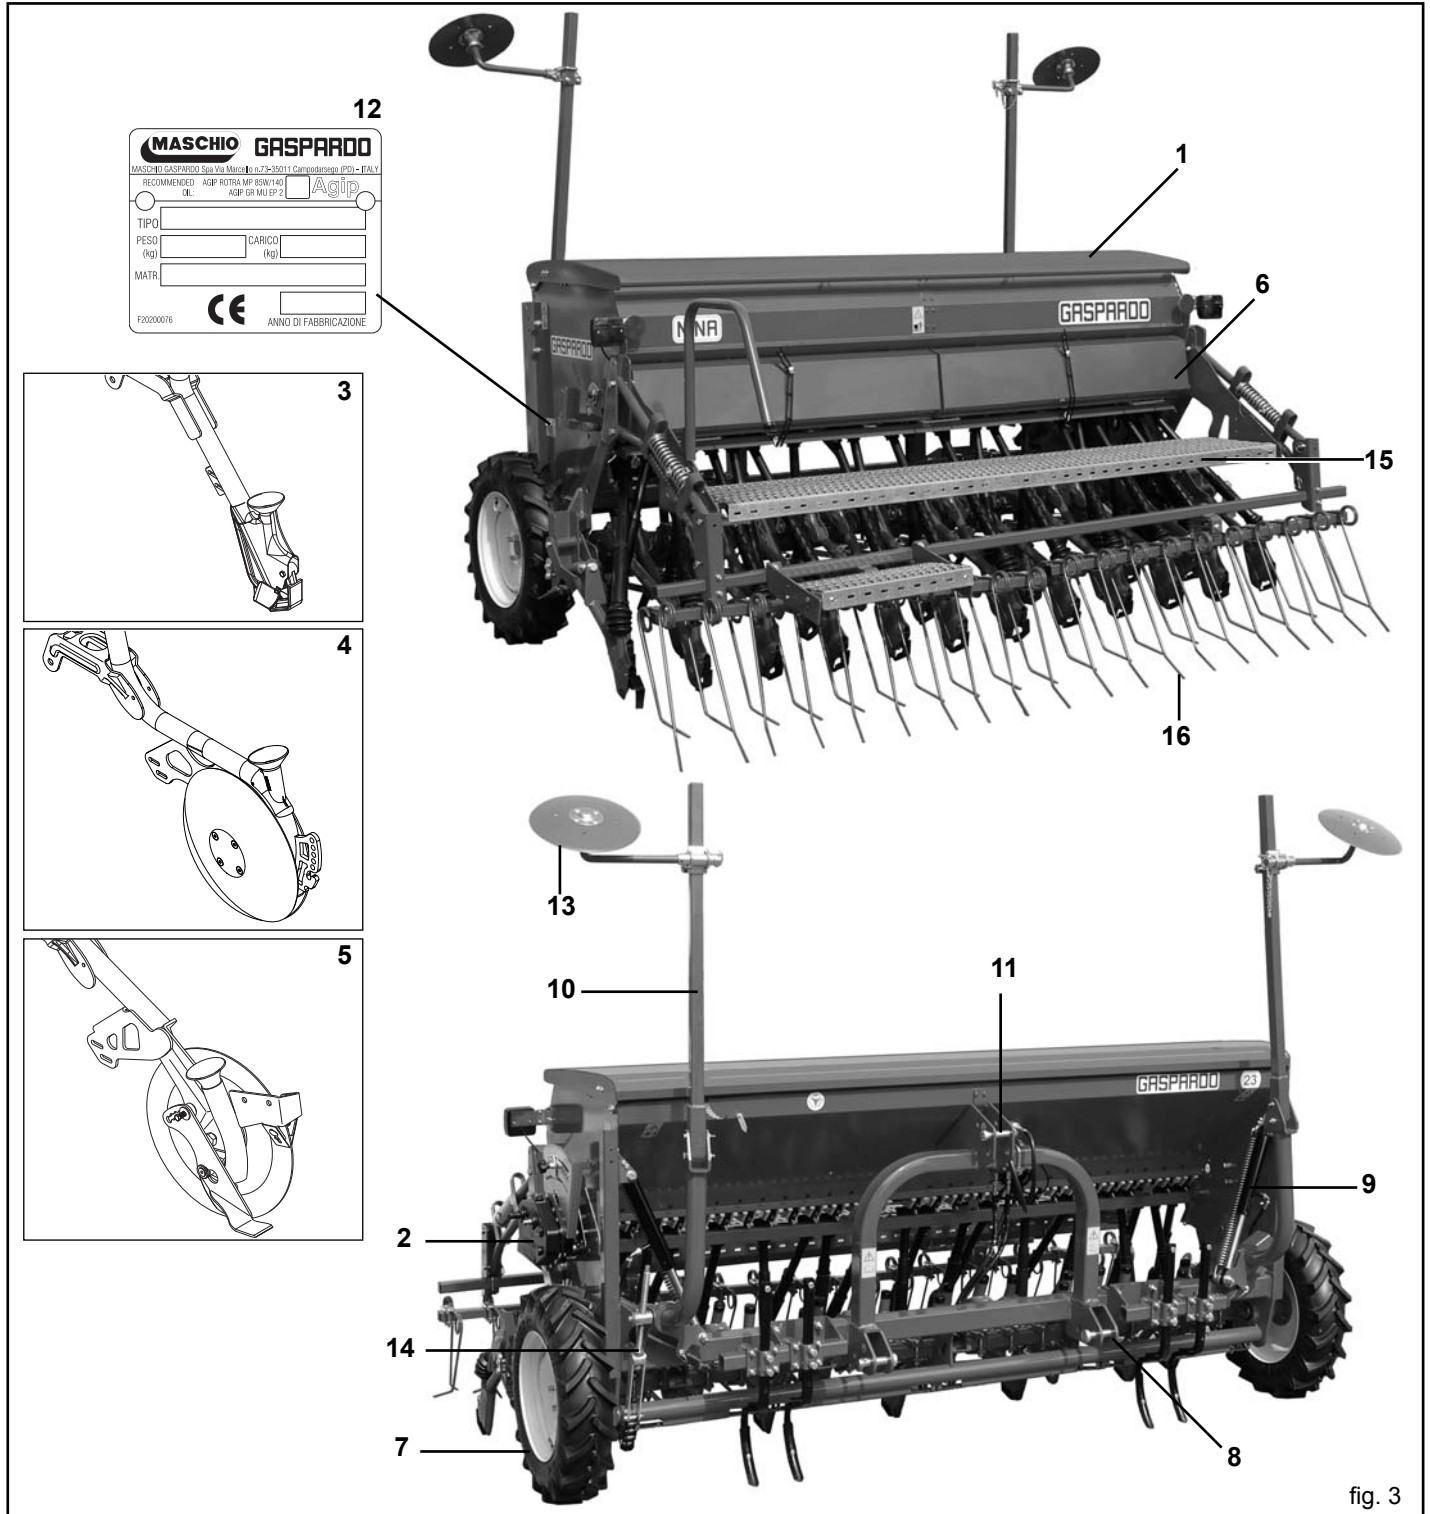

fig. 3
**1.6 DISEÑO GENERAL (Fig. 3)**